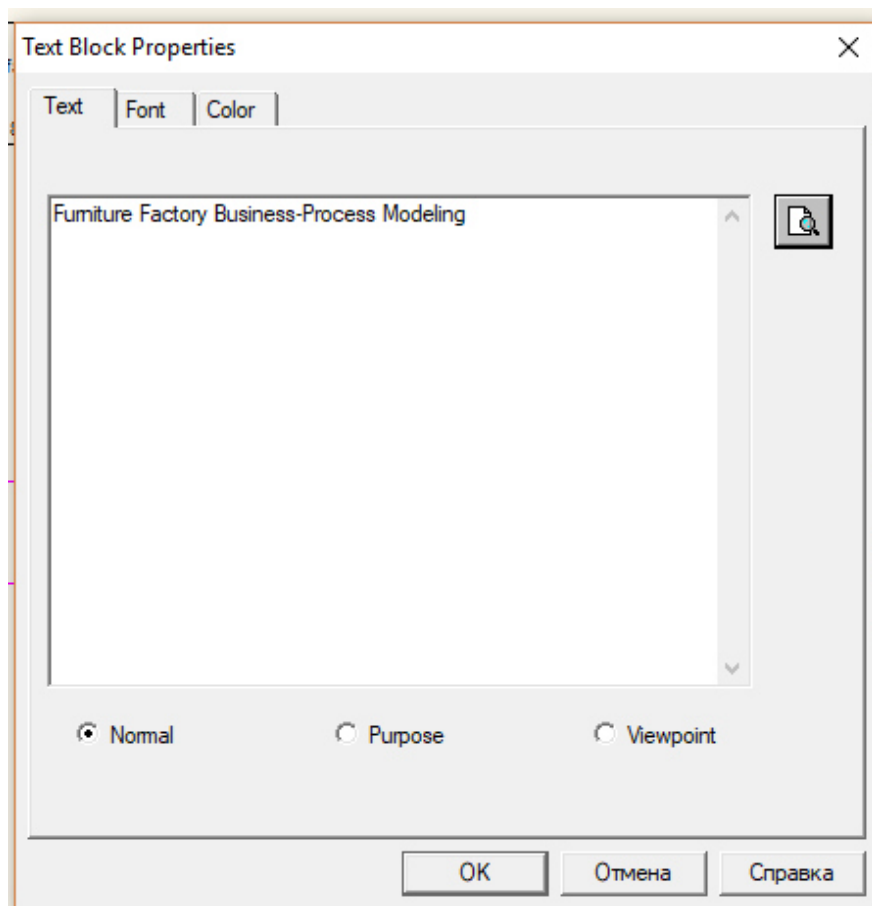

Fig. 3.8. Text block properties setting
6. Type the text in the dialog window and specify its significance (normal text, purpose or viewpoint) (fig. 3.8).